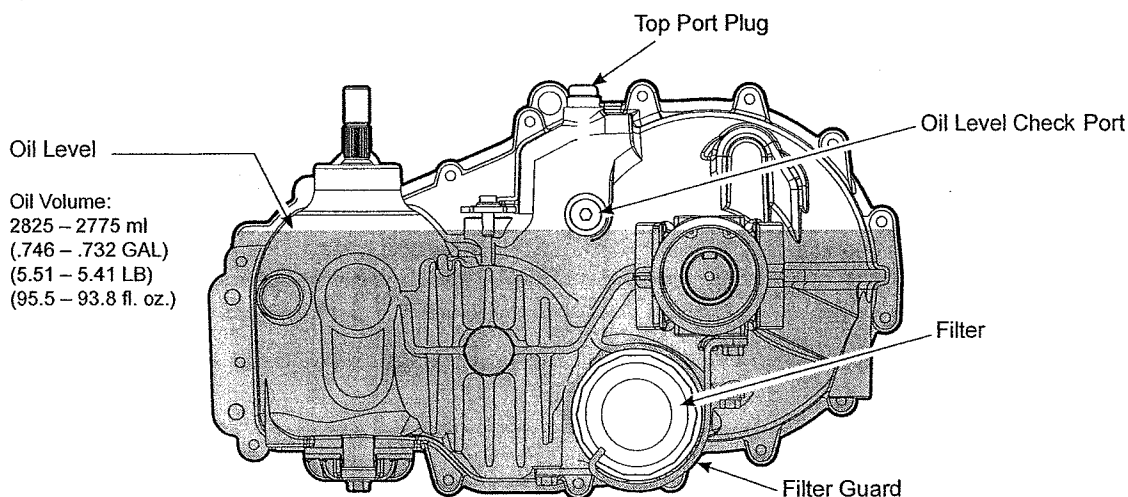

Figure 4, Filter Location
Certain situations may require additional fluid to be added or even replaced. Refer to page 11 and figure 4 for the proper fill port location.
7. Remove the oil level check port plug (figure 4) from the transaxle prior to filling with oil. This will allow the transaxle to vent during oil fill.